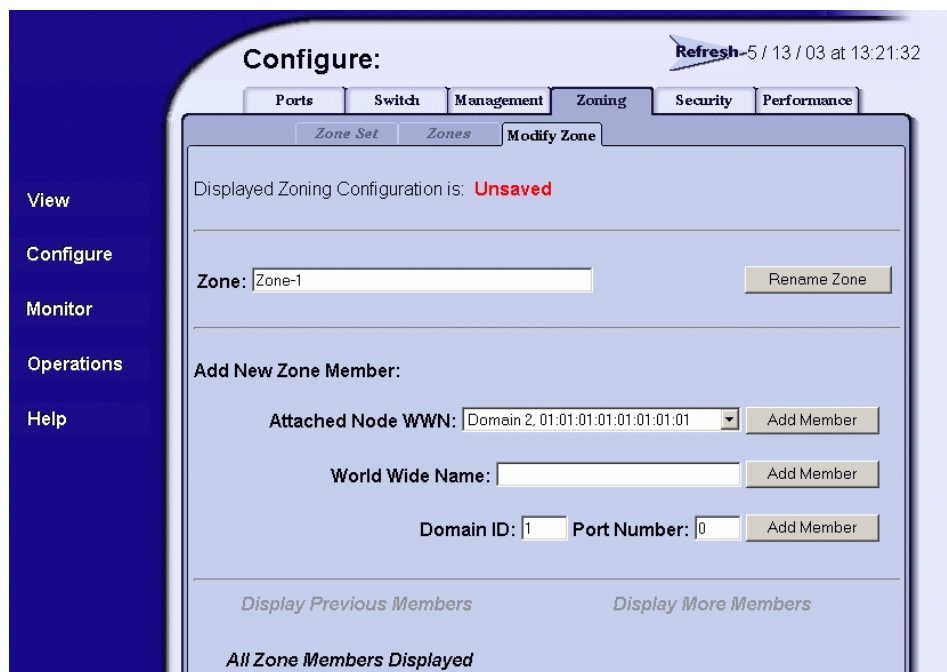

Figure 27: Zoning page—Modify Zone tab
4. To add devices (members) to the zone, click the zone name (**Zone-1**). The Zoning page displays with the **Modify Zone** tab selected (Figure 27).